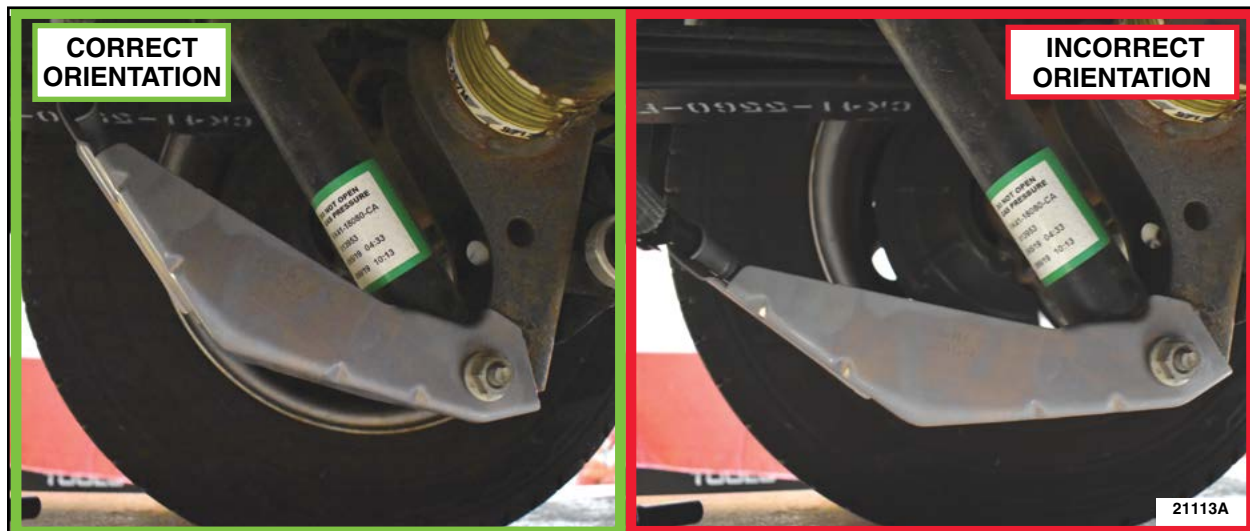

FIGURE 1
1. Remove and replace the passenger side right hand (RH) parking brake rear cable. Please follow the workshop manual (WSM) procedures in Section 206-05.
**NOTE:** Ensure the RH parking brake cable bracket is in the correct orientation prior to torquing the shock nut. See Figure 1.